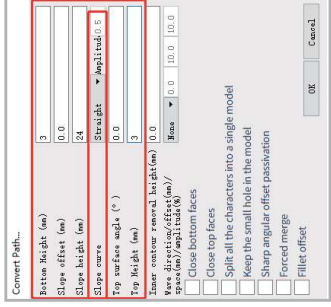

Figure3-02
2. Pop up the conversion path option, select "Straight line" for the slope curve, input the font height according to your needs, and click OK (as shown in Figure 3-02).